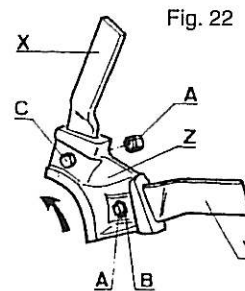

Fig. 22
In a bracket (Z) for 2 blades (see fig.22), fit the L.H. blades in the first housing in direction of rotation.